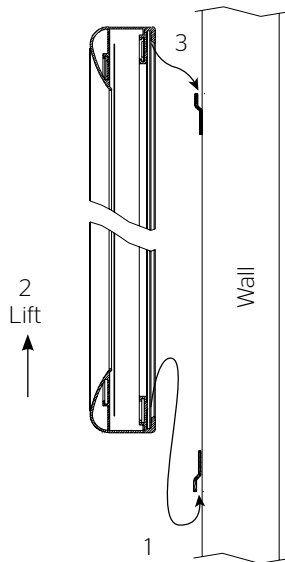

Figure 4
3. Attach the small wall bracket to the wall. Refer to Figure 4 for proper orientation. Do not tighten the screws completely. The bracket should slide up and down easily.
4. Hang the screen on the brackets by hooking the bottom of the frame onto the small wall bracket and lift up until you can hook the top of the frame on the top large bracket. Push down on the frame to seat it on the brackets. Refer to Figure 4.